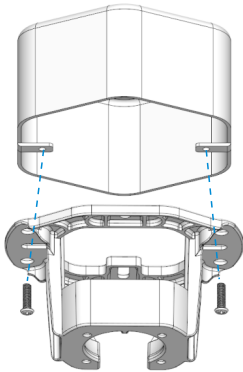

Fig. 3.1
Install the mounting bracket to the ceiling box, as shown in Fig. 3.1 below. Rotate the mounting bracket in different directions so that the bracket mounting holes match the screw holes of the ceiling box.
**Note:** This mounting bracket is a standard cable box. If the mounting bracket is installed at the outlet box, it should be installed on the outlet box with two screws matching the outlet box itself, as shown in Fig. 3.1.